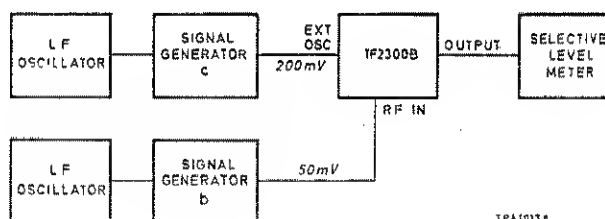

Fig. 4.5 FM distortion measurement
- (1) Set up the equipment as shown in Fig. 4.5. Adjust c to give a c.w. output of 200 mV at a frequency of 200 MHz. Adjust b to give a c.w. output of 50 mV at a frequency of 201.5 MHz, i.e. set to give an i.f. of 1.5 MHz.
- (2) On the modulation meter, set the FUNCTION switch to TUNE and the OSCILLATOR switch to EXT. Adjust the frequency of c for a maximum reading on the meter and adjust the RF LEVEL control for a reading within the black arc.